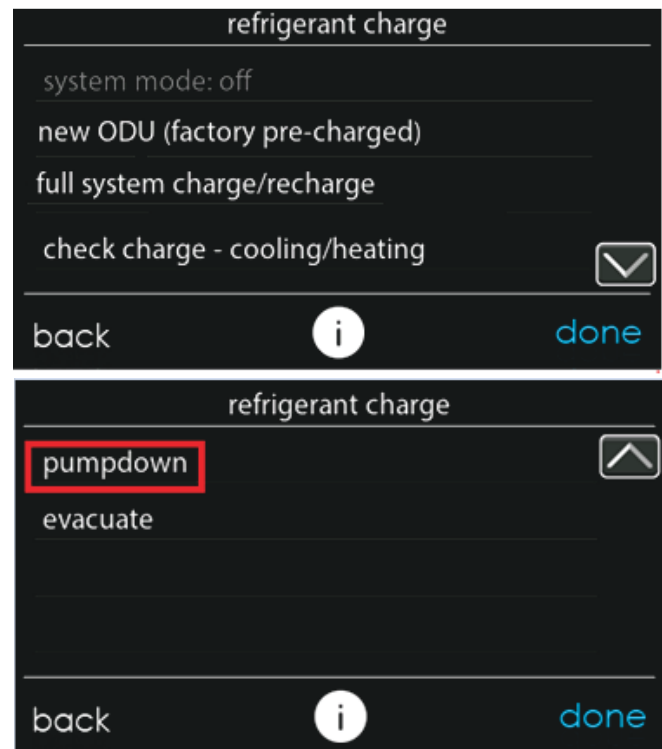

Fig. 23 – Pump Down and Evacuation Selection
2. In the "installation and service" menu of the Ion™ Black System Control (see Fig. 11), go to "refrigerant charging" and then "pump down" (see Fig. 12 and Fig. 23).